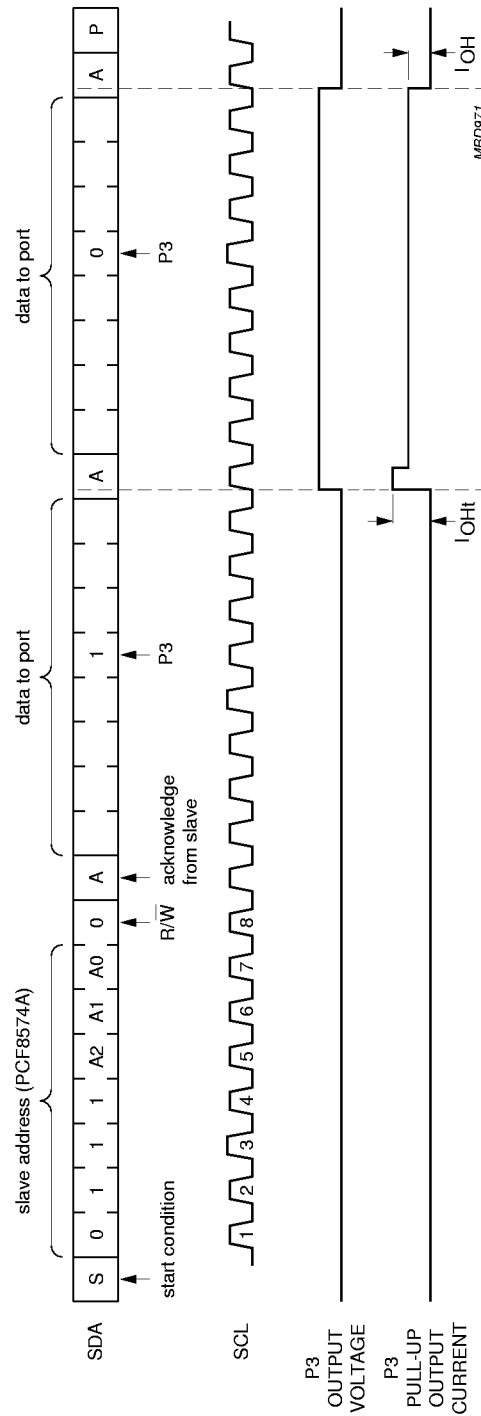

Fig. 14 Transient pull-up current I_{OH1} while P3 changes from LOW-to-HIGH and back to LOW.
7.3 Quasi-bidirectional I/Os (see Fig. 14)